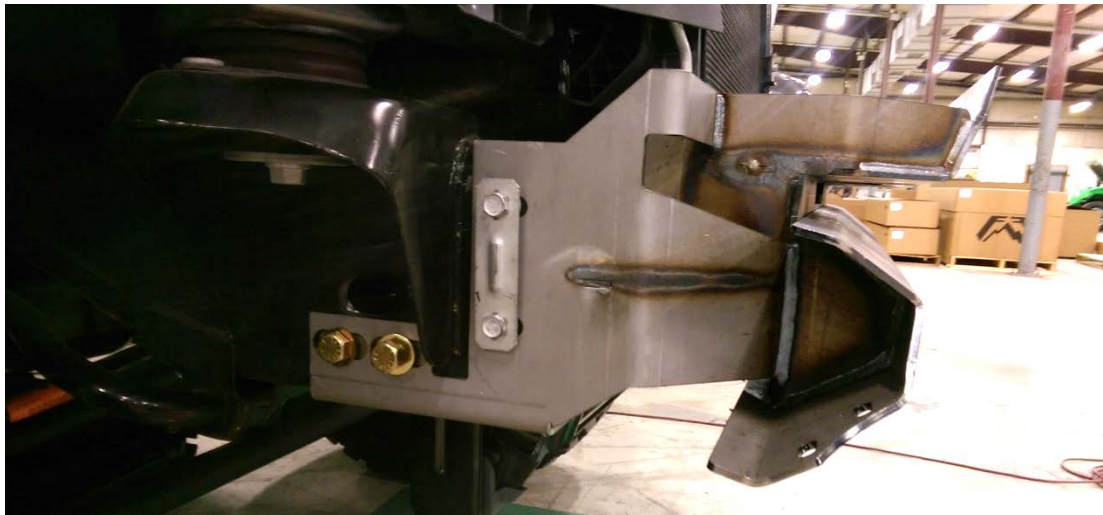

Figure 11
- K. The final step of disassembly is to bend the factory hood release handle. (Ref. Figure 11) Bend the handle 90 degrees to the passenger side as shown.
- A. Loosely install the winch tray using the two OEM bolt strips and included 9/16" hardware (Ref. Figure 11). Install all hardware with the nuts on the outside of the frame rail to avoid contact with the intercooler.